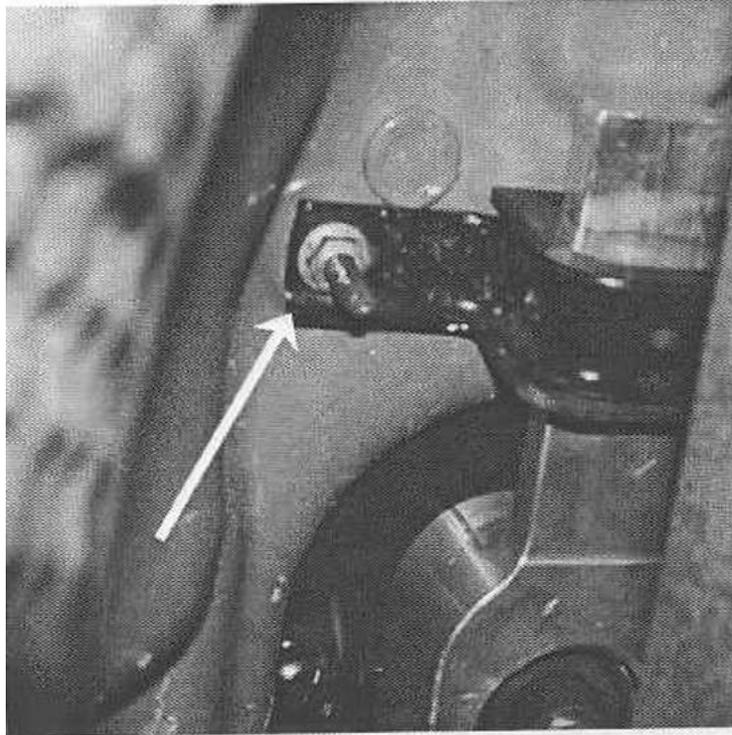

Figure 13
3. Using the take off bracket, attach the rear mount of the shifter assembly to the floor pan studs with the hex nuts previously removed (Refer to Figures 13 and 14). Torque to 10Nm (8 lb-ft).